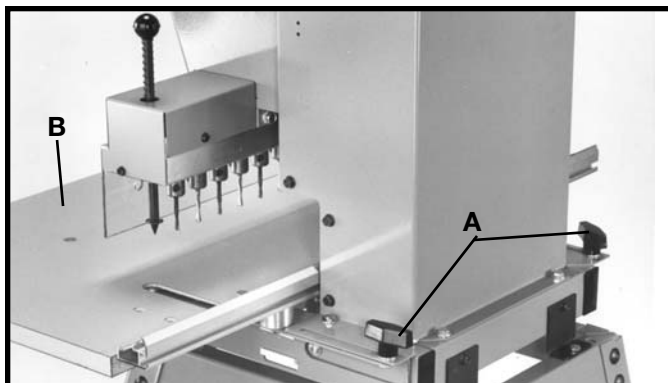
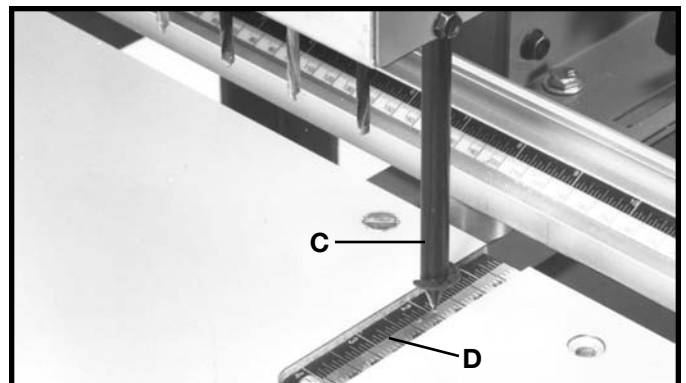

Fig. 56
Fig. 57
Loosen table lock knobs (A) Fig. 56, and move the table (B) in or out until the index pin (C) Fig. 57, when pushed down, lines up with the desired mark on the scale (D) you wish the holes to be drilled. Then tighten lock knobs (A) Fig. 56.